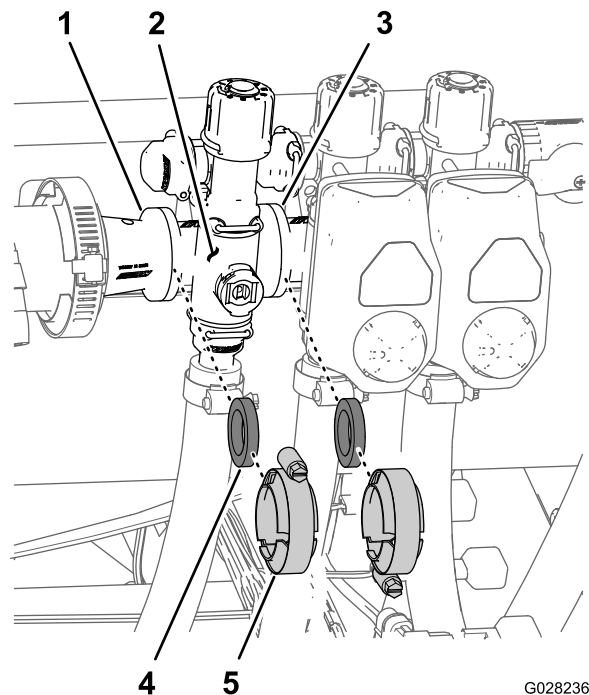

Figure 104
1. Remove the clamps and gaskets that secure the manifold for the section valve to the adjacent section valve (if left, section valve and the reducer coupling) as shown in Figure 104.